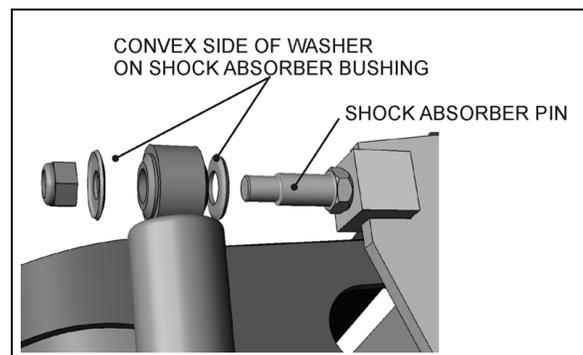

FIGURE 4: TYPICAL SHOCK ABSORBER SETUP 16009
3. Place the inner washers (with washer convex side facing the shock absorber rubber bushing) on each shock absorber pin (Fig. 4).